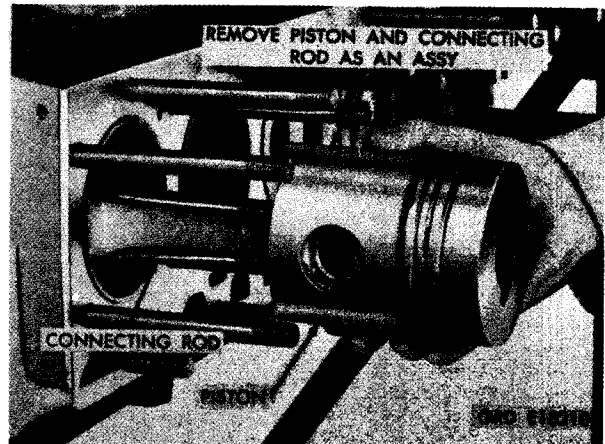

FIGURE 285. REMOVING PISTON AND CONNECTING ROD.
- (3) Refer to figure 285 and remove piston and connecting rod assemblies.